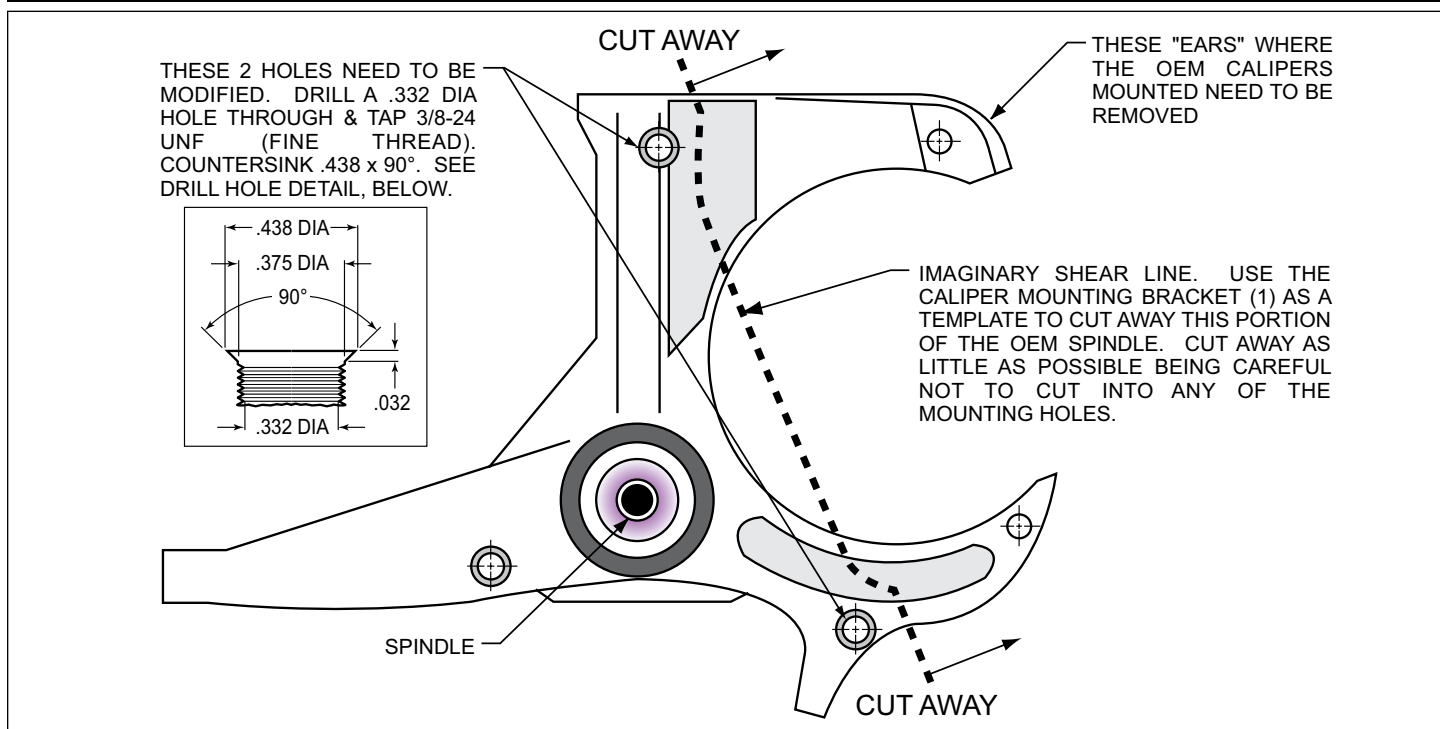
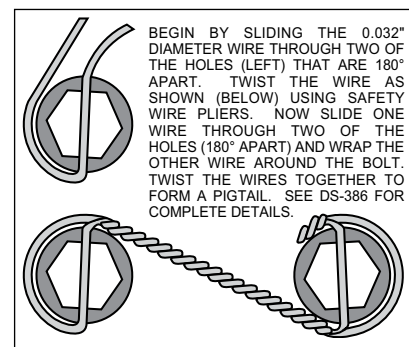

Figure 1. Steering Arm / Spindle Modifications
Figure 4. Safety Wire Diagram
These modifications should be performed by a qualified machinist. Refer to Figure 1 on the following page as necessary (numbers in parenthesis refer to the parts list on page three). Only one view of the steering arm/spindle is shown, but the modifications need to be performed on both steering arm/spindles.
The two stock holes that will be used to mount the caliper mounting bracket (1) need to be modified (figure 1). Drill a .332 diameter hole through both holes, then tap 3/8-24 UNF (fine thread). Countersink the holes to .438 x 90°. The “ears” that protrude to form a “C” shape need to be removed to facilitate the installation of the Wilwood caliper (22). Using the caliper mounting bracket (16) as a template, mark two cut marks on the steering arm. Remove as little as necessary from the “C” shape, being careful not to cut away any of the mounting holes required to bolt on the caliper mounting bracket (1).
- Install five new wheel studs (3) into the hub (4). Torque to 77 ft-lb. **NOTE:** *There are two five lug patterns in the hub (5 x 4.50 and 5 x 4.75).* Make sure of the correct hole pattern for the correct wheel application before installing studs into hub.
- Pack the large inner bearing cone (5) with high temperature disc brake bearing grease (available from your local auto parts store) and install into the backside of the hub (4).
- Install the grease seal (6) by pressing into the backside of the hub (4).
- Pack the small outer bearing cone (12) with high temperature disc brake bearing grease and install into front side of the hub (4). Slide the hub assembly (4, 5, 6 and 12) onto the spindle. Secure using spindle washer (13), stock adjusting nut, and nut locking device. Adjust wheel bearing pre-load per Original Equipment Manufacturer (OEM) specifications.
- Install the O-ring (14) and the dust cap (15) into the hub (4). **NOTE:** *O-ring (14) friction will not allow cap (15) to unscrew on its own.*
- With the larger I.D. side of the rotor (7) facing away from the hat (8), bolt rotor (7) to hat (8) through the backside of the rotor using washers (9) and bolts (10). Using an alternating sequence, apply red *Loctite*® 271 to the threads and torque bolts to 155 **in-lb**. For an added measure of security, the bolts may be safety wired using standard 0.032 inch diameter stainless steel safety wire as shown in Figure 4. Please refer to Wilwood's data sheet DS-386 (available at [www.wilwood.com/Pdf/DataSheets/ds386.pdf](http://www.wilwood.com/Pdf/DataSheets/ds386.pdf)) for complete safety wire installation instructions.
- Slide the rotor/hat assembly over the studs (3) in the hub (4) taking care to align the small countersunk holes in the hat (8) with the small threaded holes in the hub (4). Install three flat head socket head screws (11) through the small holes in the hat (8) and torque to 85 **in-lb**. Check to be sure the hat seats squarely against the hub face.
- NOTE:** *Please reference the caution statement at the beginning of the assembly instructions.* The caliper mount brackets (16) should be installed first with clean, dry threads on the mounting bolts (17). Place sleeve (19) into the holes on the radial mount caliper bracket (16). Install the radial mount caliper bracket (16) on the backside on the flat caliper bracket (1) by sliding bolt (17) through washer (18) and through the bracket holes. Place spacer (20) and shim washer (21) between the two brackets and screw bolt (17) into insert nut on the flat caliper bracket (1). Finger tighten bolt (17). Use one thin shim (21) between the two brackets (1 and 16) during initial trial fitting.
- NOTE:** *This kit contains distinct right and left hand calipers that must be mounted in a specific direction, as described below.* Lubricate the caliper mounting studs (23) with lightweight oil. Initially place two .030" thick shims (24) on each stud as shown in Figure 1. Mount the caliper (22) onto the bracket (16) using lock nuts (26) and washers (25), Figure 1. Ensure that the caliper is mounted so that the largest pistons are at the rotor exit end of the caliper, in relation to the direction of rotor rotation. Temporarily tighten the lock nuts.
- View the rotor (7) through the top opening of the caliper (22). The rotor (7) should be aligned in the center of the caliper (22). If not, adjust the radial mount caliper bracket (16) by using shims (21 and/or 28) placed between the two brackets (1 and 16). Add as many shim washers (21 and/or 28) as necessary to achieve the correct alignment. Always use the same amount of shims on both the top and bottom radial mount caliper mounting bolts (17). Finger tighten and recheck alignment, adjust as necessary. Apply red *Loctite*® 271 to bolt threads (17) and torque to 47 ft-lb.